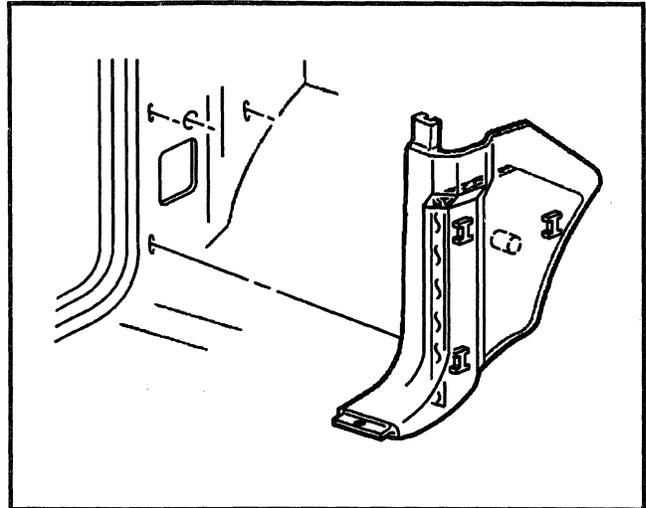

Figure 14—Hinge Pillar Trim Panel
### ↔ Remove or Disconnect (Figures 14 through 25)
7. Left and right hinge pillar trim panels (Figure 14).